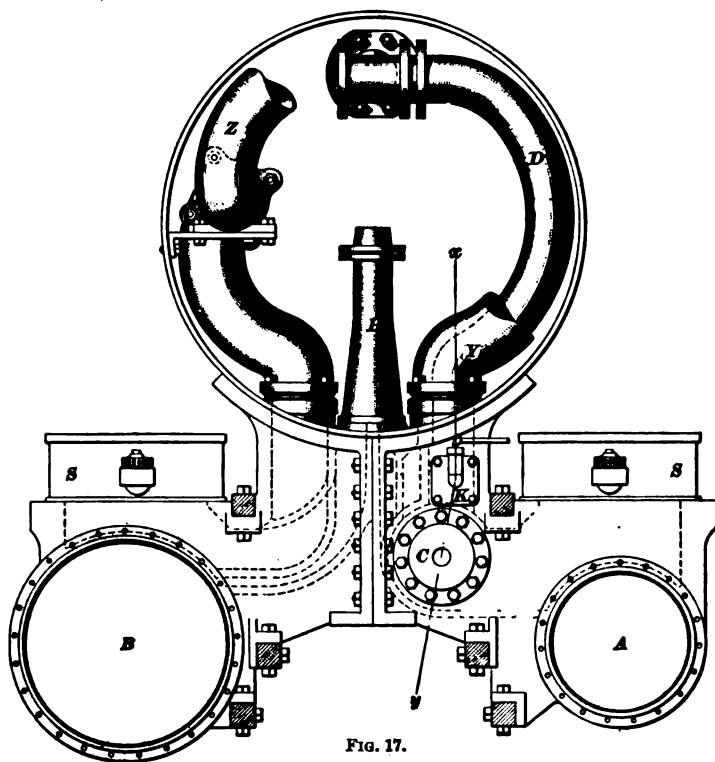

FIG. 17.
**42. General Arrangement.**—The general arrangement of the high- and low-pressure cylinders and of the intercepting valve of the **Baldwin two-cylinder compound locomotive** is clearly shown in Fig. 17. In this type of compound, the high-pressure and low-pressure cylinders are arranged similarly to the cylinders of a simple engine, and the distribution of steam to the cylinders is effected by means of slide valves operating in the steam chests *S, S*. As will be seen, there is but one steam pipe *D* in the smokebox, and that connects with the steamway in the cylinder saddle that leads to the steam chest of the high-pressure cylinder *A*. The end *Y* of the receiver connects with a special passage in the saddle that leads to the intercepting valve *C*, while the other end *Z* of the receiver connects with the steam passage that leads to the steam chest of the low-pressure cylinder *B*. The exhaust pipe *P* connects with the regular exhaust passage leading to the low-pressure cylinder, and also, through a special passage, with the intercepting valve, which is situated in the same half saddle as the high-pressure cylinder; hence, by the action of the intercepting valve, as will be explained, the exhaust steam from the high-pressure cylinder may be made to go either through the receiver *Y Z* and the cylinder *B* and its exhaust passage to the exhaust pipe *P*—as when the engine is working compound—or direct through the special passage to the exhaust
**43. Intercepting Valve.**—If the cylinder saddle, Fig. 17, were cut through on the line *xy*, and the high-pressure cylinder